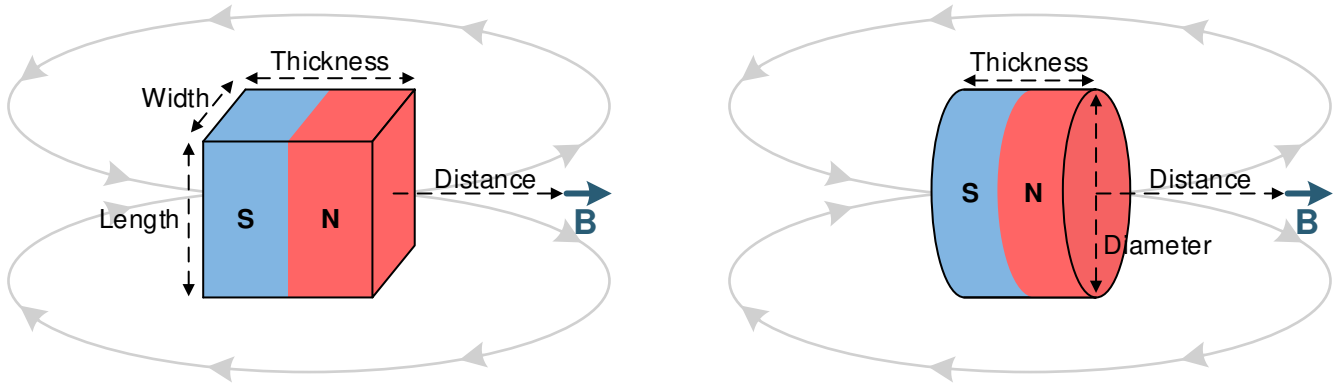

图 8-5. Rectangular Block and Cylinder Magnets
dimensions of a magnet determine the magnetic flux density (B) produced in 3-dimensional space. For simple magnet shapes, such as rectangular blocks and cylinders, there are simple equations that solve B at a given distance centered with the magnet. 图 8-5 shows diagrams for 方程式 4 and 方程式 5.
Use 方程式 4 for the rectangular block shown in 图 8-5:
Use 方程式 5 for the cylinder illustrated in 图 8-5: